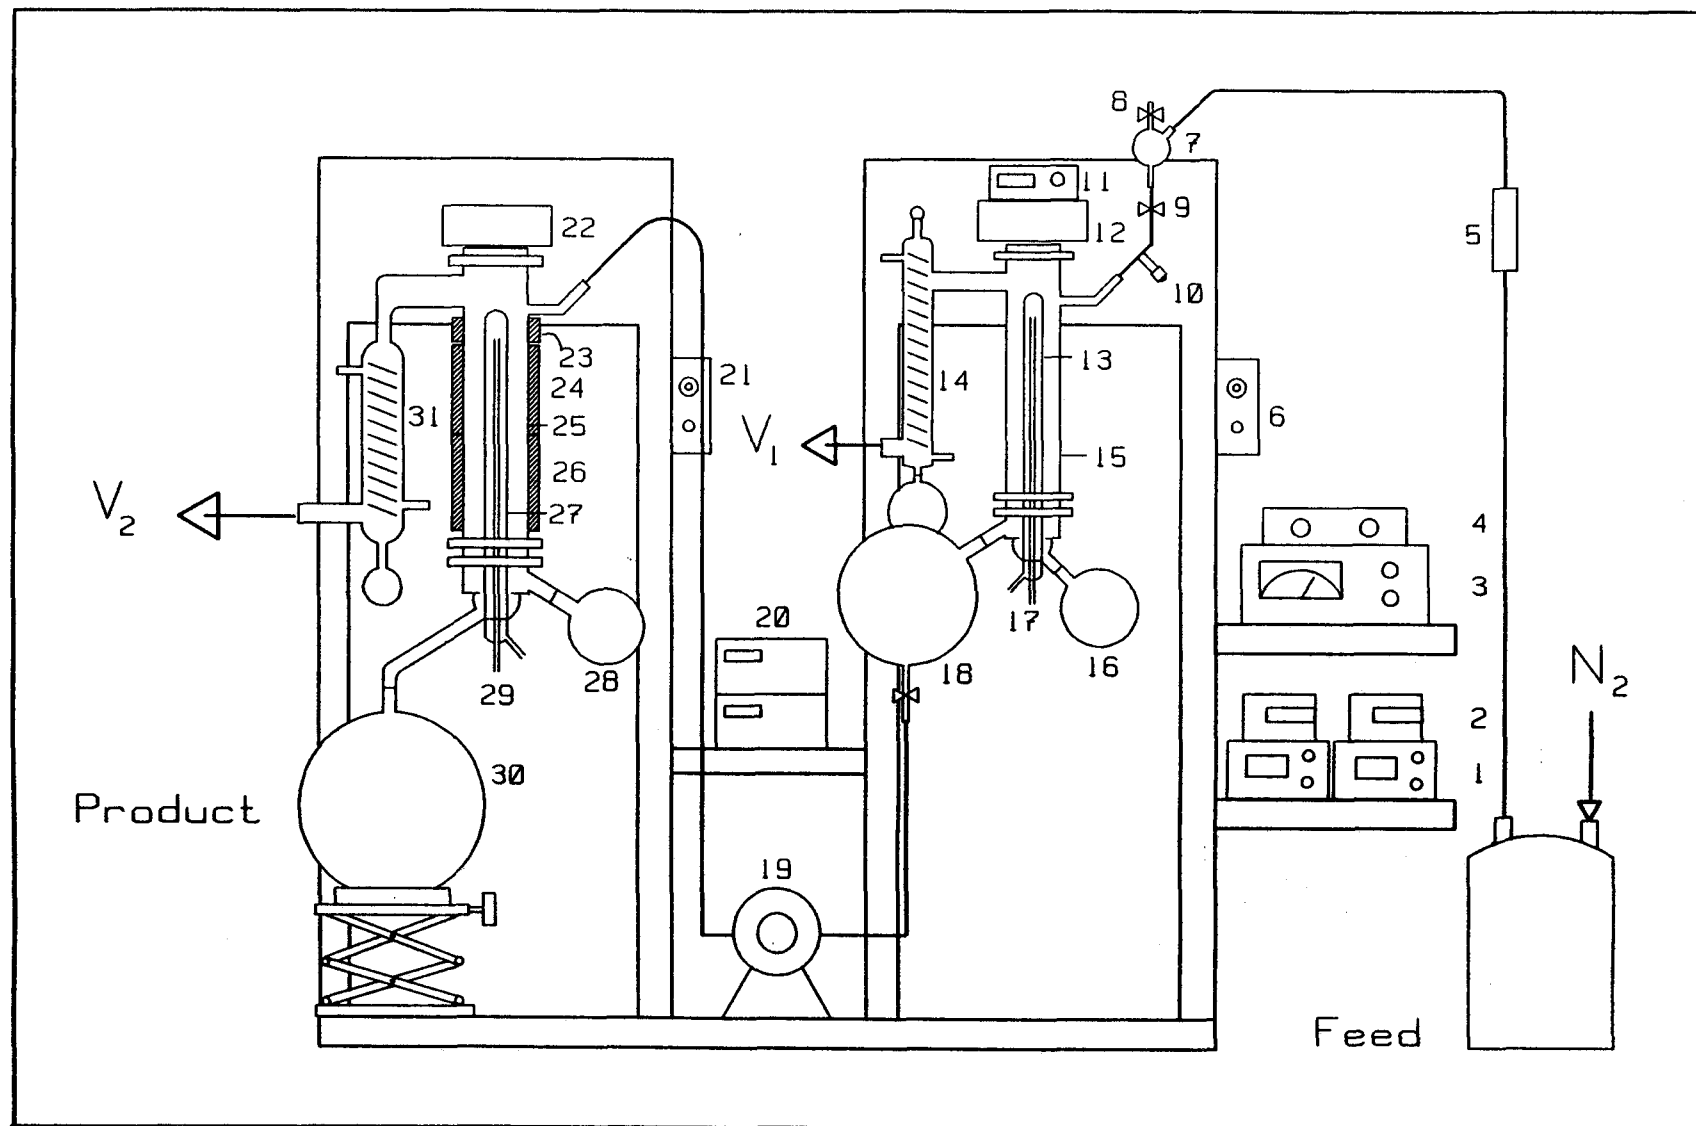

Fig. 10. Two-stage wiped film short-path still.
The molecular still was constructed from off-the-shelf items and electronic components purchased from Pope Scientific, Inc., Menomonee Falls, WI. The first stage is a four inch (diameter) glass still containing a stainless steel wiper drive assembly and Teflon blades. The second stage is similar but is a six inch still. Both still bodies are heated by Glas-Col heating mantles. The vacuum pumps of both stages are protected by glass condensers and electric vapor traps. Feed for the still is contained in 10-L Schott bottles. The products are stored in 5-gal stainless steel pressure vessels. Ancillary equipment includes an in-line 7 μ filter and a metering feed valve, both in the feed line, and a feed pump for the second stage. A dedicated water chiller is used to provide coolant for the condensers. Electronics include a two-stage Pirani pressure gauge, two wiper drive controllers, three temperature controllers, a multi-channel temperature monitor, and a flow controller for the second-stage feed pump. A diagram of the equipment is shown in Figure 10.
4. Place the 2-L round bottom flasks on both stills at [16] and [28] (Fig. 10).
9. Place the 10-L bottle containing esters in-line as shown in Figure 10. Connect N_2 line to pressurize bottle. When flask [7] is half full, close valve [8].